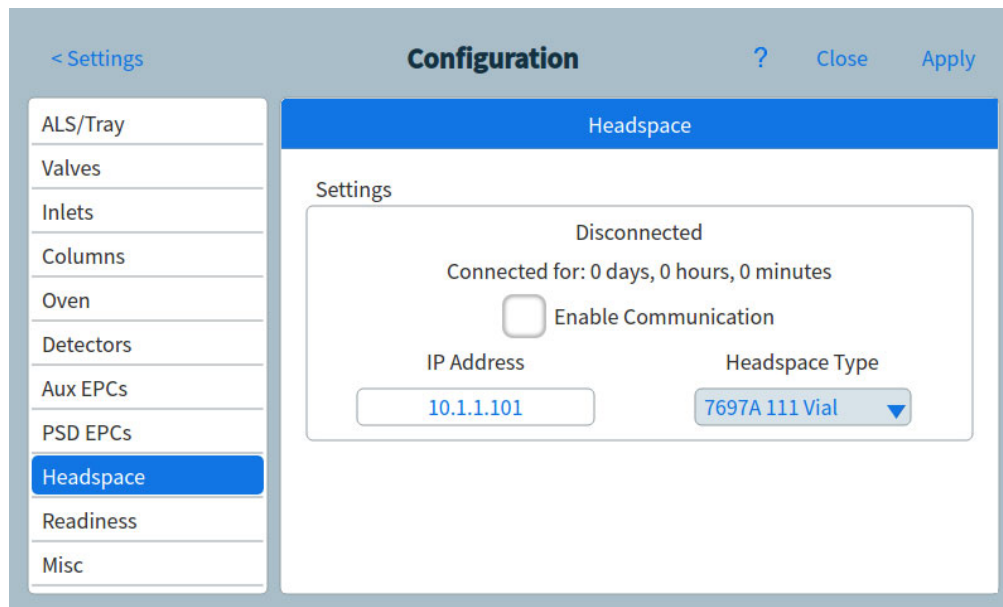

Figure 72. Headspace settings page
- 1 Select **Settings** > **Configuration** > **Headspace**. See **Figure 72**.